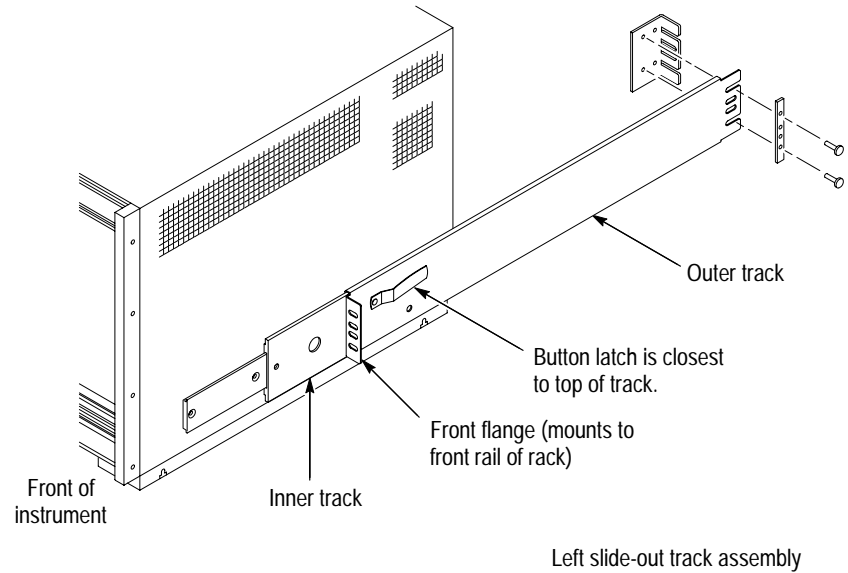

Figure 2: Assembling the slide-out track assemblies
3. Align the rear bracket to the right slide-out track as shown in Figure 2. Note that the rear bracket has two pairs of mount-through holes. When aligning the bracket and the track, select a pair of holes that mount the rear bracket so the flange-to-flange distance (see Figure 2) matches the front rail to rear rail spacing that you just measured in step 2.
4. Attach the rear bracket to the right slide-out track using two 10-32 screws and a bar nut as shown in Figure 2. Leave the screws loose so that you can adjust the overall length of the slide-out track assembly when installing the mainframe in the rack.